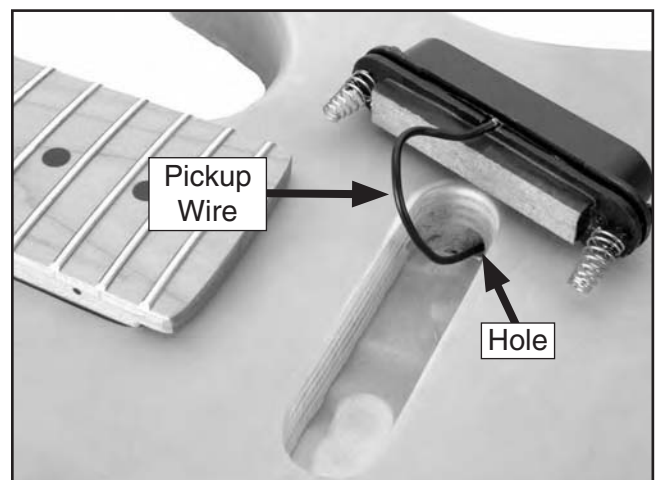

Figure 8. Pickup installation location.
- Using a $\frac{1}{16}$ " bit, drill $\frac{3}{8}$ " deep holes through the holes in the tuning head plate, and secure with the #3 x $\frac{3}{8}$ " black screws as shown in **Figure 8**.
- Insert the pickup wire (**Figure 8**) through the hole in the pickup mortise and into the circuit board mortise.